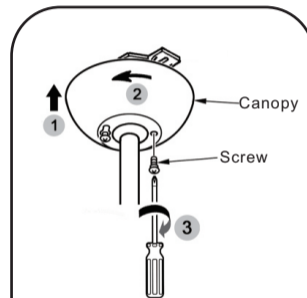

Fig.16
Step 2. Slide the canopy up towards the hanger bracket and place the key hole on the canopy over the screw on the hanger bracket, turn canopy until it locks in place at the narrow section of the key holes. (Fig. 16)
Step 3. Align the circular hole on canopy with the remaining hole on the hanger bracket, secure by tightening the two set screws. (Fig. 16)